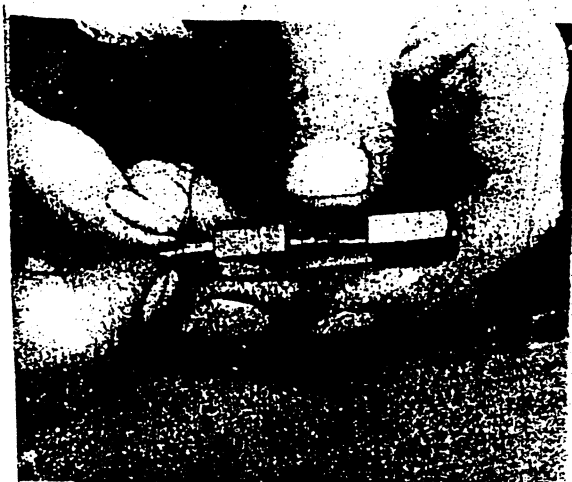

FIG. 131
6. To clean the pintle end of the valve itself insert the valves into the appropriate end of the nozzle pin cleaner (ET.072) and rotate until all the carbon is removed, as shown in Fig. 131. Should this not prove completely satisfactory the brass wire brush (ET.068) may also be used and any hard pieces of carbon still not dislodged may be removed with a piece of wood or brass strip.